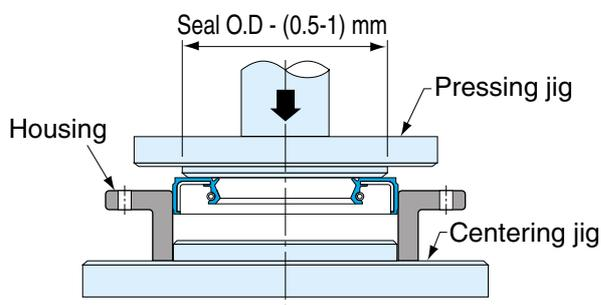

Fig. 1.7.3 Recommended seal press-fitting jigs
6) When seal is pressed into housing bore, use pressing jig as shown in Fig. 1.7.3.